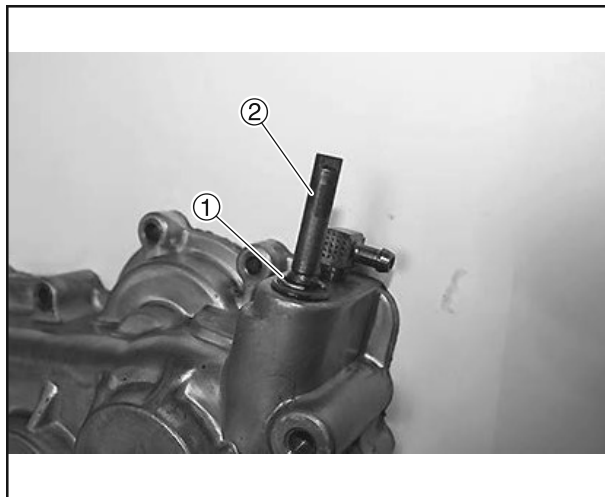

Figure 6-84
22. Remove the retaining ring (Figure 6-84, (1)) and slide the governor shaft (Figure 6-84, (2)) inside the case to remove.